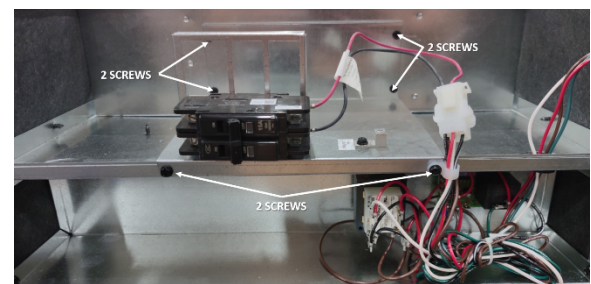
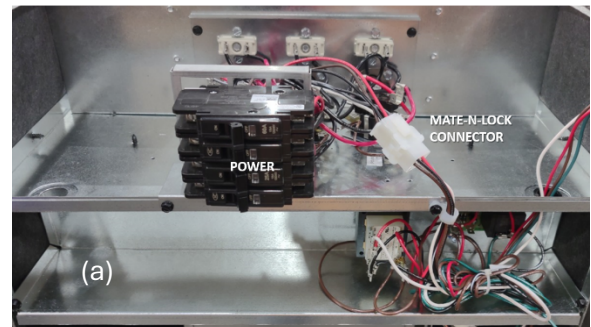

FIG. 2
FIG. 3
- 4) Unplug the Mate-n-Lock connector (FIG. 3) and Remove block-off plate or existing heater kit from air handler by removing 6 screws (See FIG. 2)
- 6) Insert power leads into the circuit breaker lugs or terminal block and tighten (FIG. 3)
- 7) Connect ground wire to ground lug (FIG. 3)